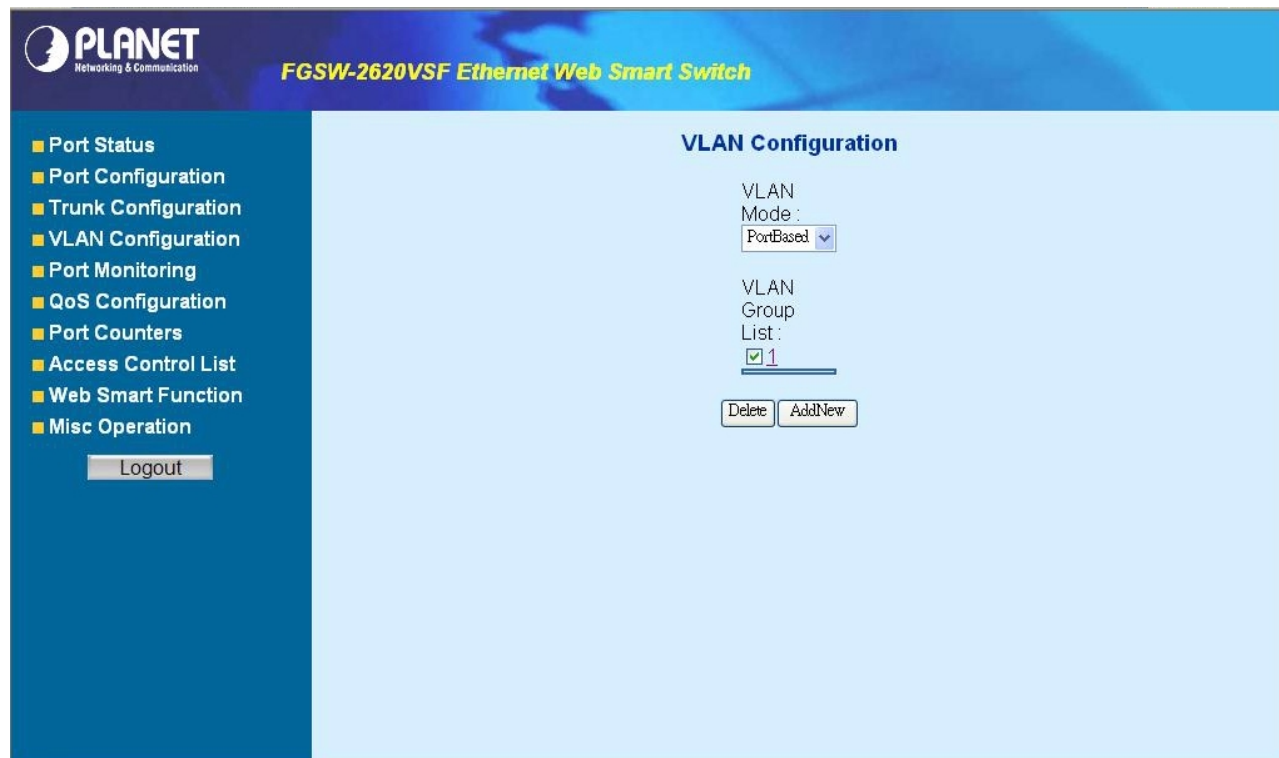

Figure 4-19 Delete Port-based VLAN group Web Page screen
1. Check **existence VLAN group ID** and the screen in Figure 4-19 appears.